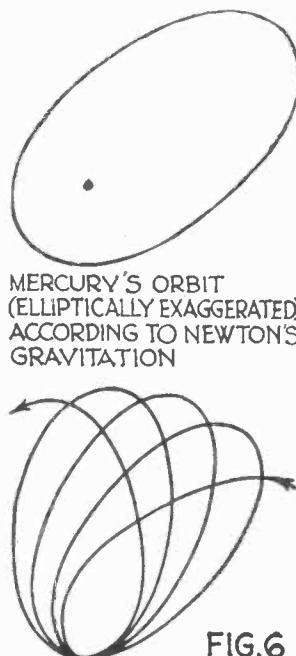

FIG.6
I SHALL not give much space to the confirmation of prediction (3), the rosette shape for Mercury's orbit (Figure 6), since I have fully treated it in the fourth article of this series. For the benefit of readers who may not have seen the complete discussion, however, I shall remark that theory and observation agree in every particular. In fact, until Einstein's theory of relativity entered the field, the curious behavior of Mercury's orbit was an unexplained anomaly. Herein was one of relativity's first triumphs.